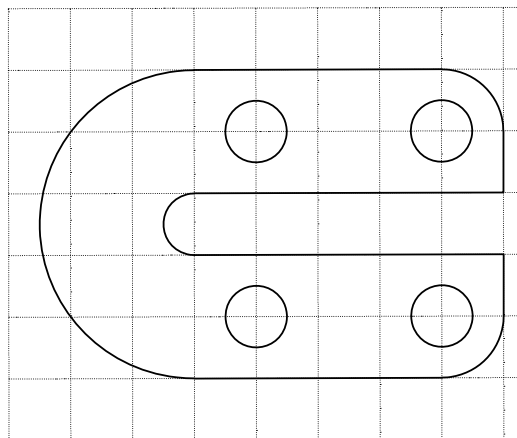

Figure 3-12 Drawing for Exercise 4
- Draw the profile shown in Figure 3-12. Create the curves by using the **Start, End, Direction** tool. The distance between the dotted lines is 1.0 unit and the diameter of the circles is 1 unit.